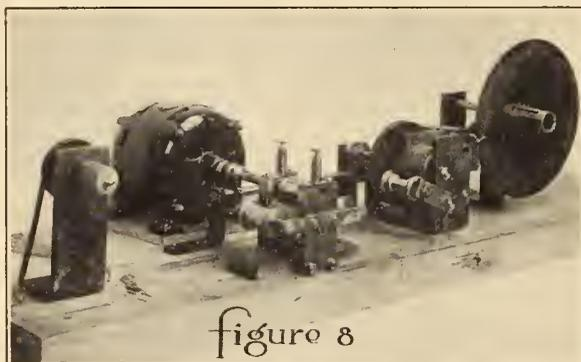

Fig. 8—Film burnishing machine.
1. **By Edge Burnishing the Gelatin Surface.** It was considered that if the burnishing effect of the gate springs on the gelatin coating of the film could be simulated by a preliminary treatment, the difficulty caused by incrustation might be diminished. Accordingly, a machine was constructed for burnishing the edges of the film (see Fig. 8) consisting of a highly polished undercut roller (R1) working against the edges of the film and revolving in contact with and above an idler roller (R2). The film was fed between rollers R1 and R2 by means of a gearing so arranged that the film advanced